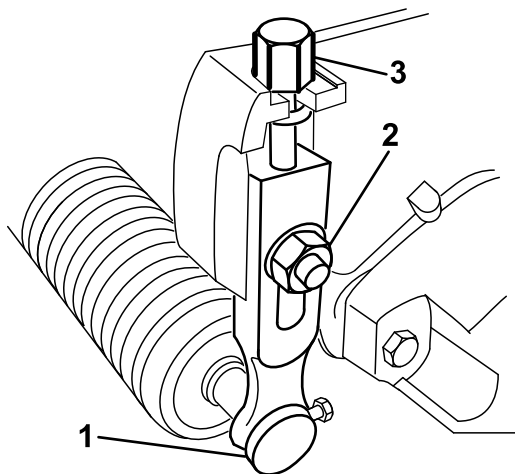

Figure 10
1. Loosen the locknuts securing the height-of-cut arms to the cutting-unit side plates (Figure 10).